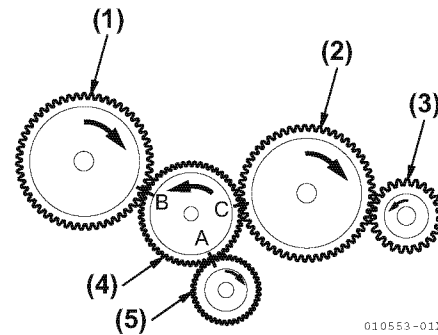

Figure 5-161
- (d) Align the “B” match marks on the fuel injection pump drive gear and idler gear **(Figure 5-161).**